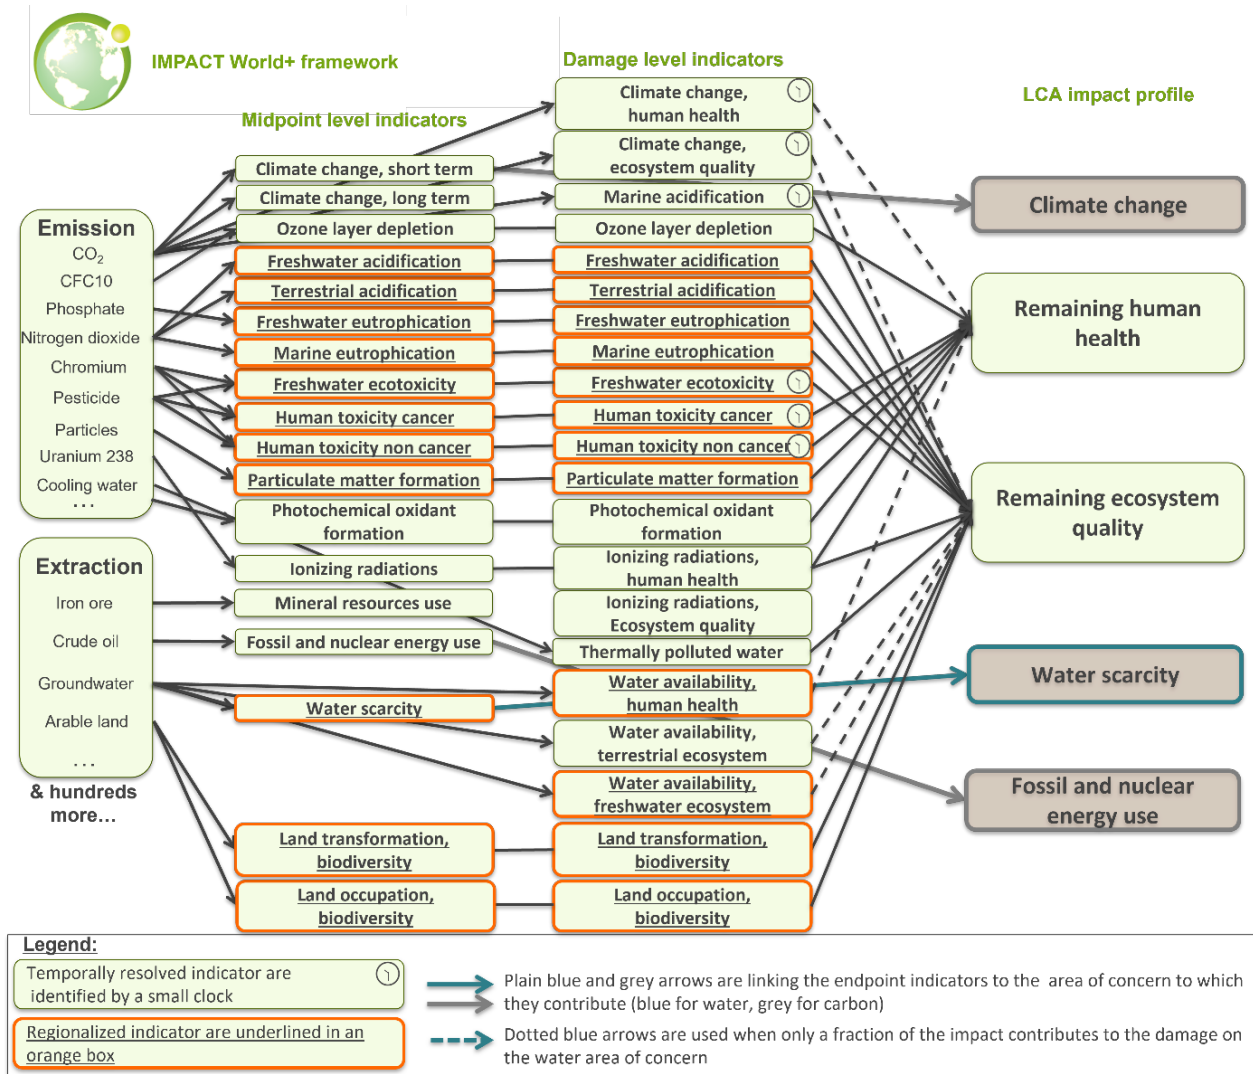

Figure 1: Methodological framework of potential impacts assessment: visual representation adapted from IMPACT World+ method.
2. The “remaining HH” and “remaining EQ” indicators regroup all other impact categories contributing to those two areas of protection, as shown in Figure 1.